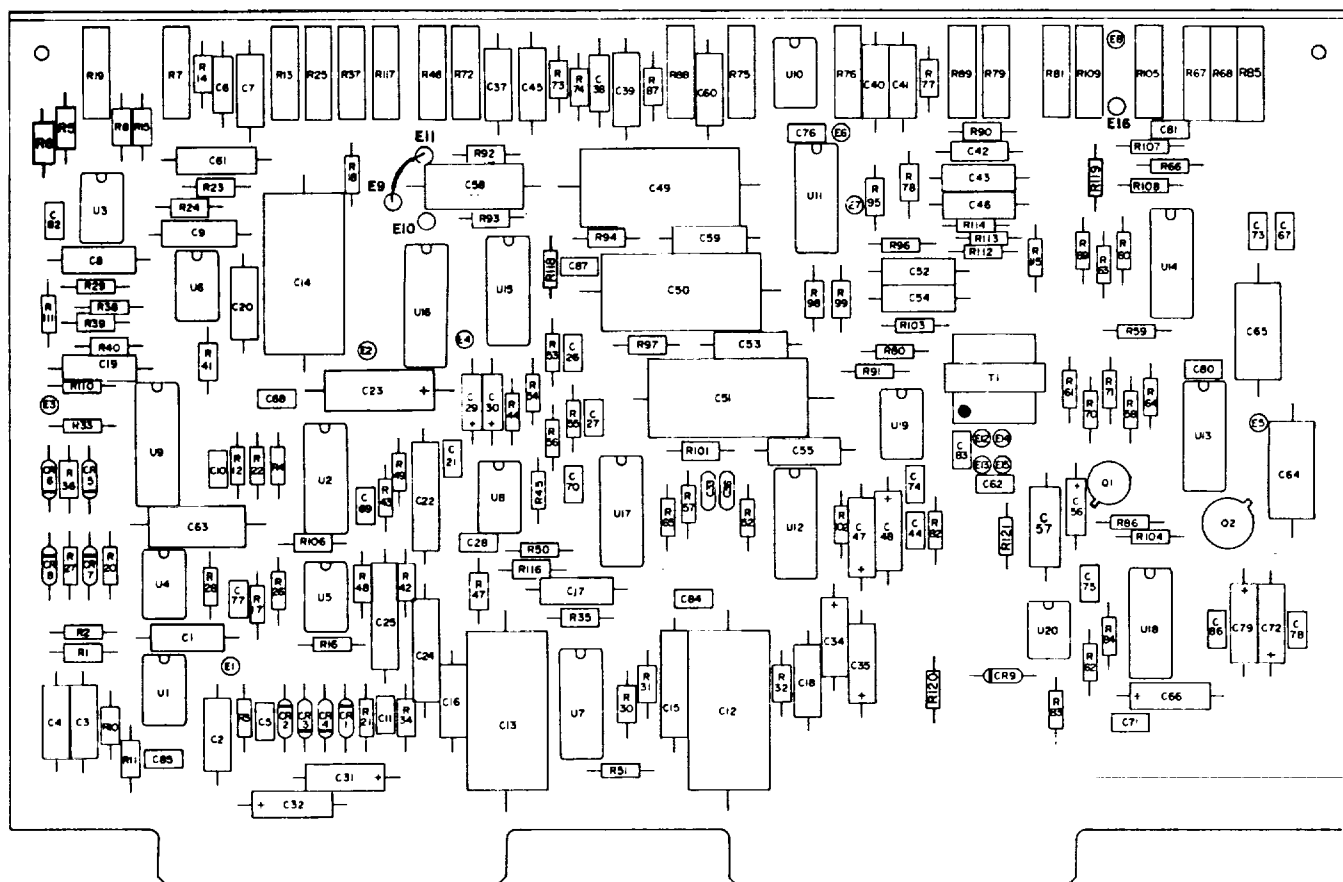

Figure 4-6. XMTR/RCVR Voice Buffer Circuit Card Assembly, 1A2A5
f. XMTR/RCVR Voice Buffer Circuit Card Assembly (1A2A5) Disassembly. This circuit card assembly should be removed only when servicing or component replacement is required. To remove this circuit card assembly, grasp both edges of the card and pull up. Further disassembly should be limited to removal of parts for repair or replacement. Refer to figure 4-6 for location of component to be replaced.